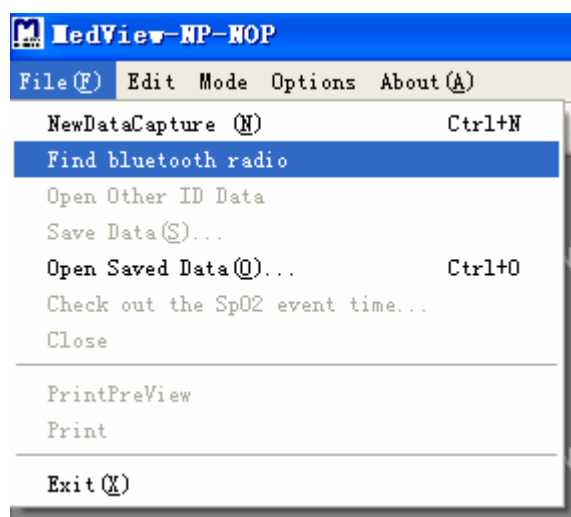

Figure 3-10
3.2.2 Click “Find Bluetooth® radio” item in the interface as shown in Figure 3-10. The following figure will be available. There are three methods for searching Bluetooth® devices, (1). Select “Show Remembered” (2). Select “Issue Inquiry” and “Show Remembered” (3). Select “Wizard”.